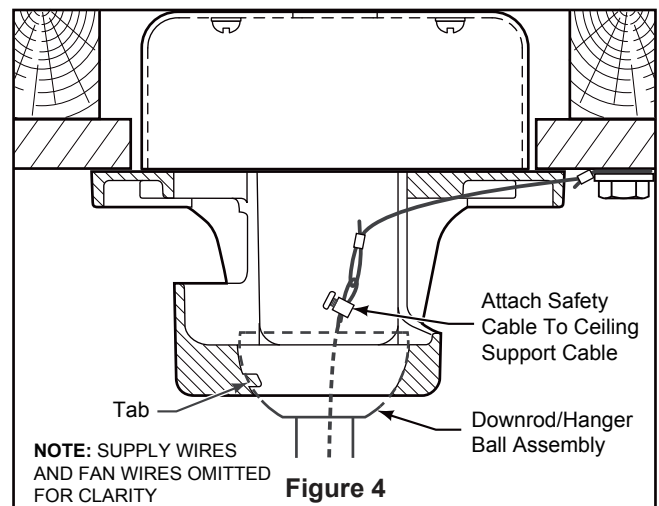

Figure 4
4. Position downrod support and align the clevis pin holes in both parts. Install the clevis pin and secure with the hairpin clip. Tighten the two set screws and locking nuts in the downrod support. (Figure 4)
4. Carefully lift the fan and seat the downrod/hanger ball assembly onto the hanger bracket that was just attached to the outlet box. Be sure the groove in the ball is lined up with tab on the hanger bracket. (Figure 4)
5. Attach the safety cable to ceiling support cable. Slide cable clamp and washer onto safety cable (from fan). Place the end of cable through the loop of ceiling support cable. Pull as much cable through loop as possible. Feed end of cable into clamp hole and firmly tighten screw. (Figure 4)